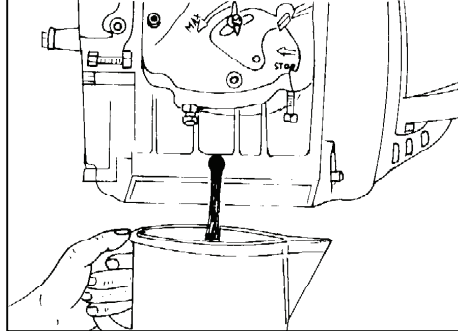

Figure 4
3. When the engine is warm, empty oil pan and fill with standard new oil. See figure 4.